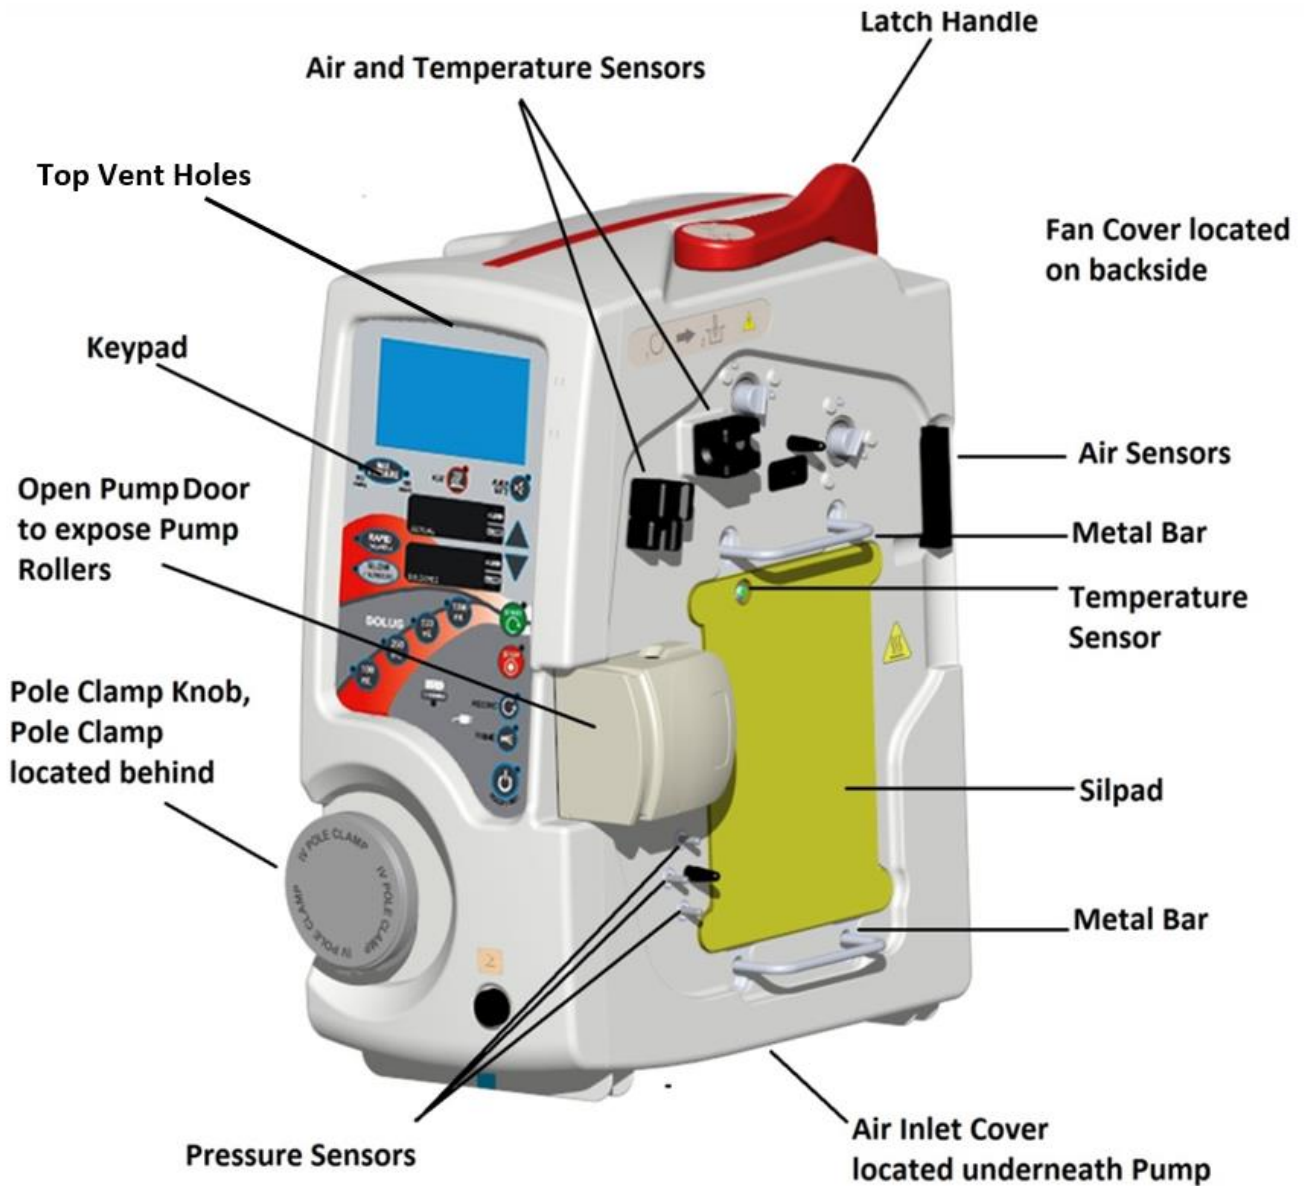

Figure 3: Schematic for Cleaning and Maintenance
3. Clean and gently wipe all surfaces of the Cassette-Pump interface, including the sensors, silpad, pump door, and pump rollers indicated in Figure 3. Extreme care should be taken not to damage these components. Allow the silpad to dry completely before the next use.